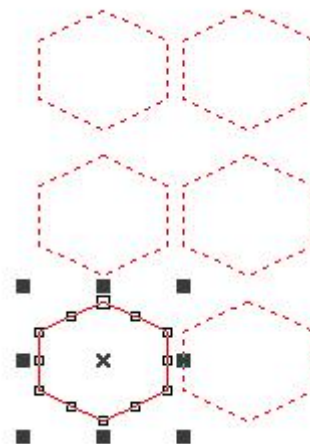

Figure 2-15 Array (X=2, Y=3)
- Figure 2-15 stands for the situation when "X=2, Y=3"